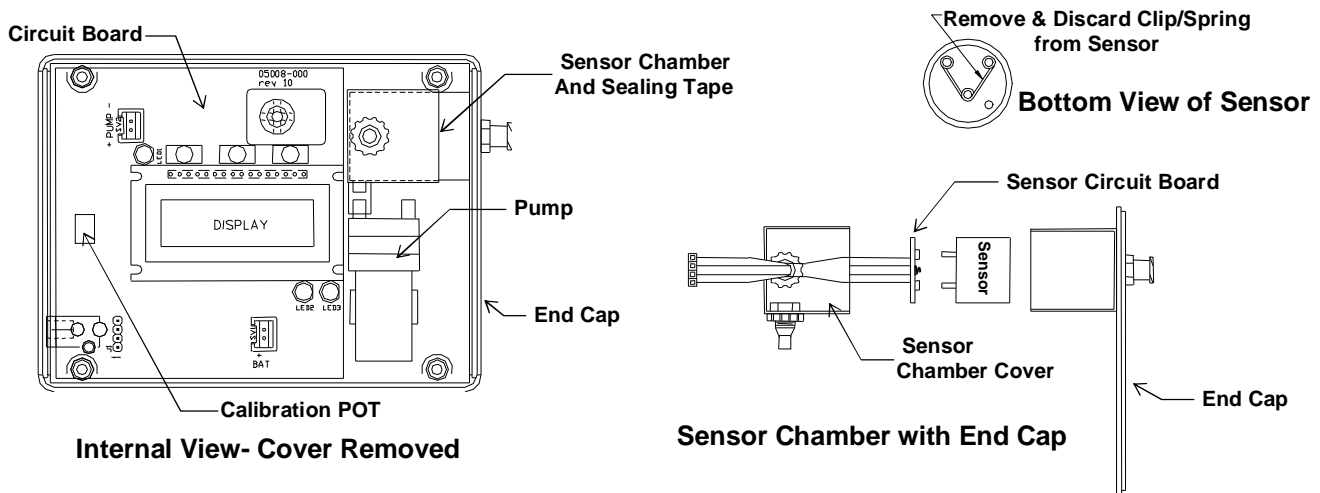

Figure 4: SPECTRUM SP Series Sensor Location
- Pull out the sensor and disconnect the sensor from the sensor circuit board. See Figure 4.